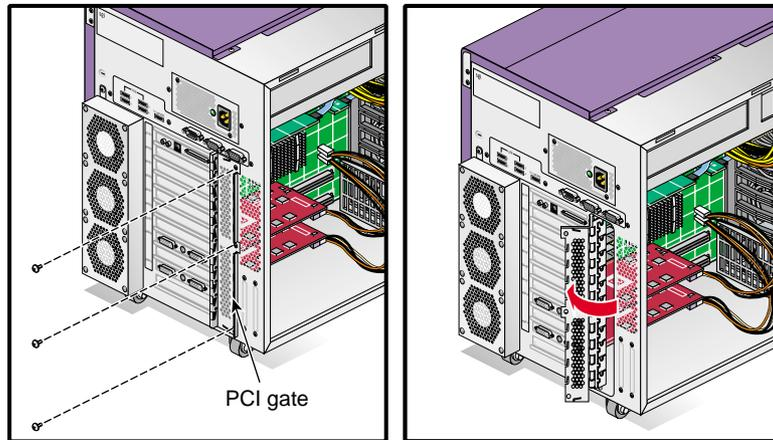

Figure 3-26 Opening the PCI Gate
1. Remove the three screws that secure the PCI gate to the enclosure. Then open the PCI gate (see Figure 3-26).